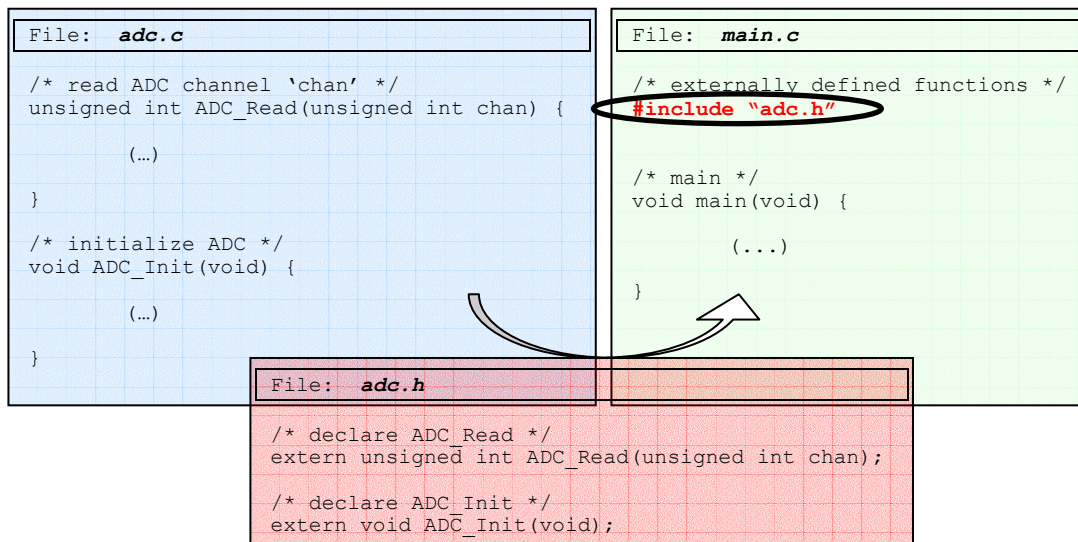

Figure LM3-2 Separating main program and user functions
- (1) Begin with creating a new project based on stationery *Dragon12\_flat*. Save this empty project under the name *myADC.mcp*.
- (2) This exercise will make use of 3 special function registers: A control register (select channel, configure ADC), a status register (test for end-of-conversion – don't use interrupts yet) and a data register (conversion result).
- (3) It is good practice to write a separate source code file for each hardware unit you use (e.g. one for the ADC, one for serial communication, one for the timer, etc.). Functions which are defined in any of these source files can be made available to the *main* module via an associated header file (see Figure LM3-2). It is recommended that you create the following pair of files: *adc.c* contains the definition of all ADC related functions (e.g. *ADC\_Init*, *ADC\_Read*); the corresponding header file *adc.h* declares these functions by listing their *function prototypes*. You will have to modify your main program (*main.c*) to include the new header file.